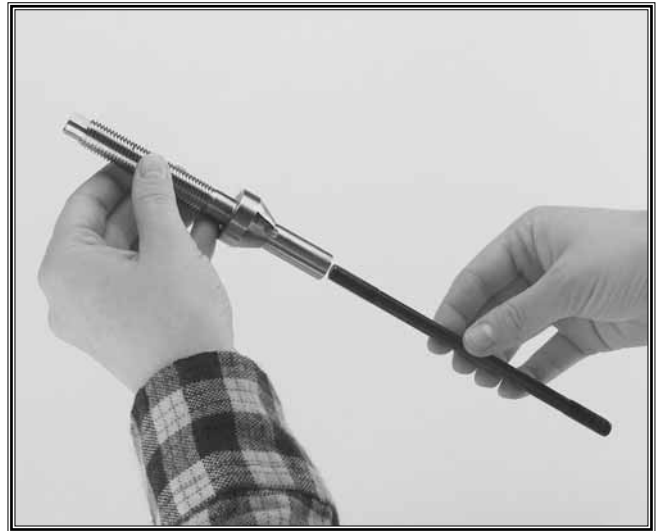

Figure 18. Threading drawbar into spindle.
2. Thread one end of the drawbar into the bottom end of the desired spindle as shown in **Figure 18**, approximately 10-15 turns until tight.